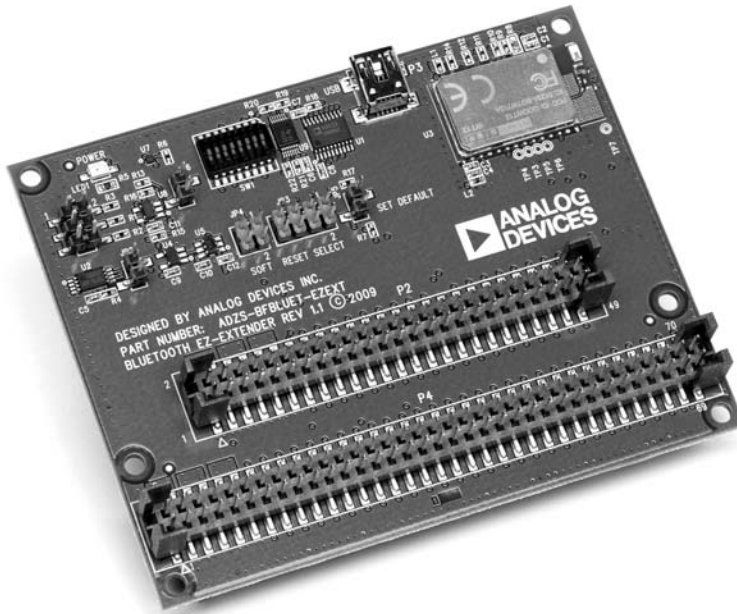

Figure 2-18. Blackfin Bluetooth EZ-Extender Daughter Board
The Blackfin Bluetooth EZ-Extender daughter board, as shown in Figure 2-18, plugs onto the compatible EZ-Board, EZ-KIT Lites, and STAMP board. The Blackfin Bluetooth EZ-Extender extends the capabilities of the Blackfin boards by providing a connection to a Bluetooth module. It also isolates the low-level configuration and communication tasks of integrating Bluetooth and radio frequency (RF) wireless technologies in your Blackfin board designs.